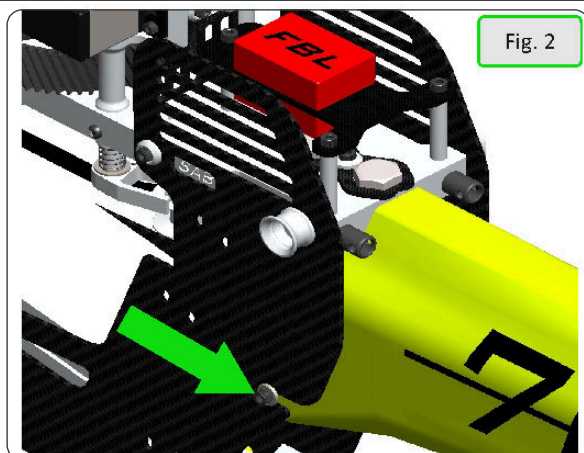

Fig. 2
*Check the screws that are highlighted in the following images frequently, make sure you remain tight (**fig.2** and **fig.3**).